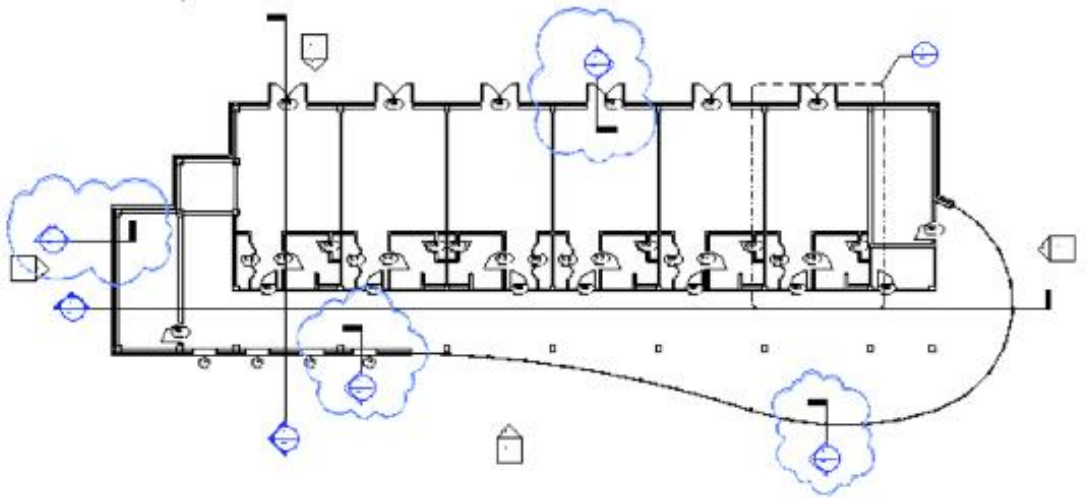

Figure 7–61
4. Draw four wall sections, as shown in Figure 7–61. Ensure that the front wall section passes through a window and the back wall section passes through a door.